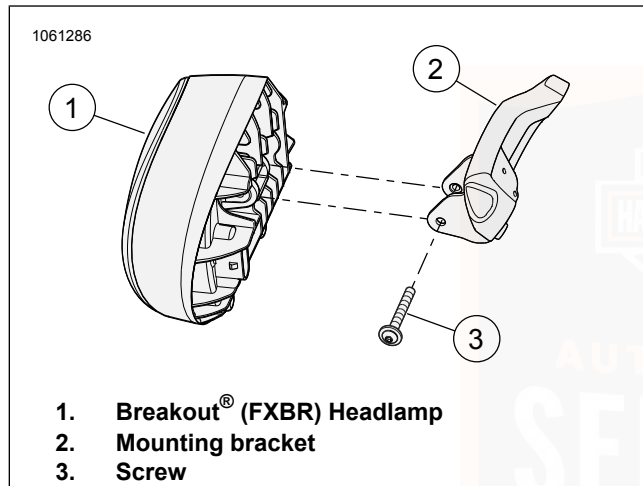
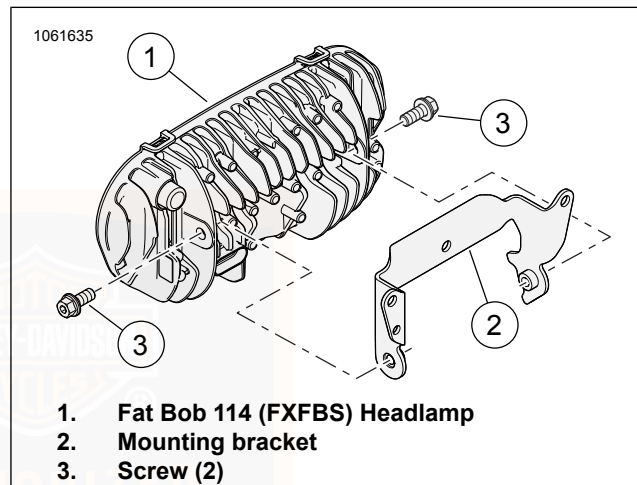

Figure 80. Headlamp Adjustment
Figure 81. Headlamp Adjustment
1. See Figure 80 and Figure 81. Loosen vertical adjustment screw (3). Adjust headlamp vertically until beam centers on horizontal line.
2. Tighten vertical adjustment screw (3):